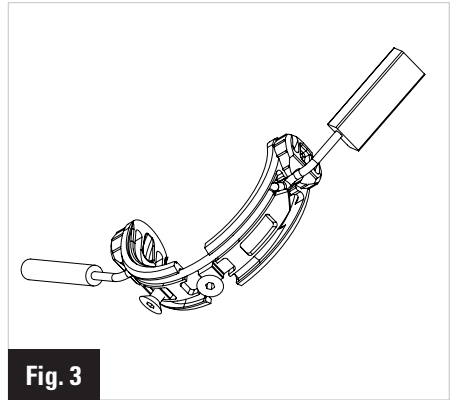

Fig. 3
- 3- Install the cable guides in the bottom bracket. Only the rear electric wire must run through the bottom bracket. Fit the liner guides (2), locking the wire into the internal grooves (fig. 3), then tighten the flange (1) using the screws (3).
- 5- Install the electric wire guide (G) at the rear chainstay exit.
- 6- Stick the LOOK (1) sticker onto the cap. Clean and degrease the surface for optimum glueing.